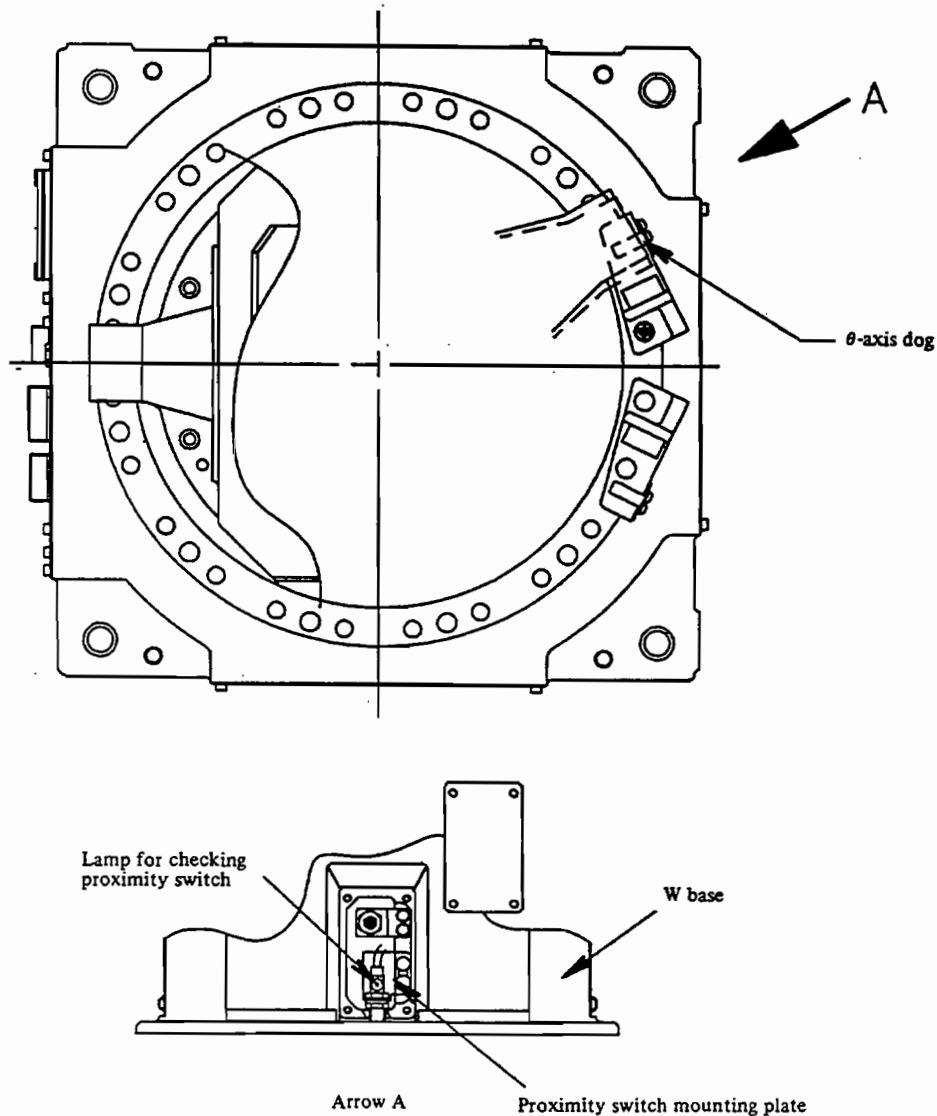

Fig. 4.1 (h) Adjustment of θ -axis OT (S-700)
- ⑤ Shift the dog to a point approximately 5 mm away from the point where the lamp of the proximity switch goes off and mount the dog.
- ⑥ Check that the stroke and operation limit are as shown in Fig. 4.1 (a).
- ⑦ Mount the cover of the W base.